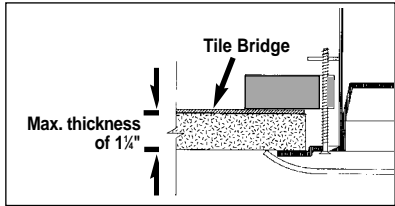

FIG. 2
Area of detail for Figures 2, 3 & 4
**Figure 2:** Enclosure installation from below ceiling using tile bridge above. This room-side installation into suspended tile utilizes rotating clamps to sandwich tile between bridge and enclosure. Max. ceiling thickness is 1 1/4".